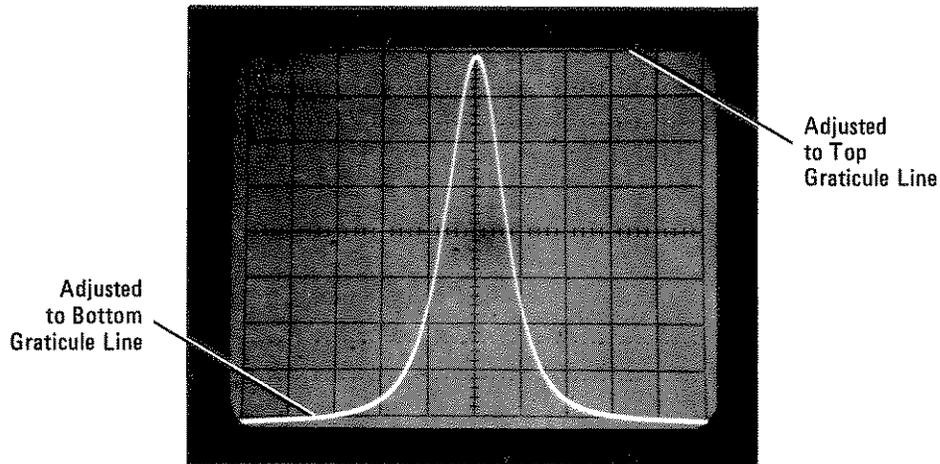

Figure 3-31. Spectrum Analyzer Calibration Signal Used to Adjust 8750A
Adjust the FREQUENCY TUNING knob to center the signal trace on the CRT (i.e., so the signal trace crosses the horizontal center graticule equal distances from the center point of the display grid) see Figure 3-31. Adjust REFERENCE LEVEL FINE control so that the top of the signal trace meets with the top graticule line of the display.
- n. On the 8750A, press B, then INPUT. Adjust rear panel VERT IN OFF (Vertical Input Offset) until the bottom of the signal trace meets with the bottom graticule line on the display (See Figure 3-31 below).
- o. On the 8750A, adjust rear panel VERT IN GAIN (Vertical Input Gain) until the top of the trace meets with the top graticule line of the display (see Figure 3-31).